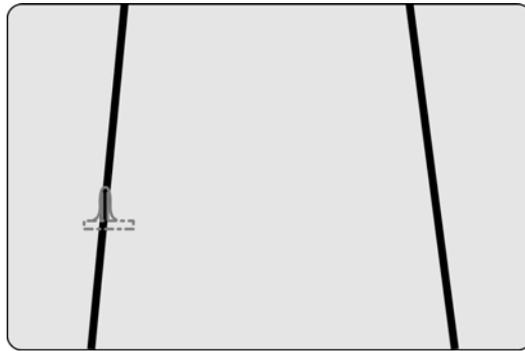

Figure 3-3. Jitter Measurement Using Histogram Window
7. Press the **Amplitude** soft key. Set the CH1 Scale to 30 mV and set Offset to 0 mV. A steep pulse rise and fall trace should appear as shown in Figure 3-3.
10. Set X1 and X2 so that the histogram window is over the rising edge of the steep data signal and slightly wider than the data. The histogram window should encompass the width of the rising edge data. Refer to Figure 3-3.
12. Set X1 and X2 to set the window over the rising edge of the steep data signal, and slightly wider than the data, see Figure 3-3.